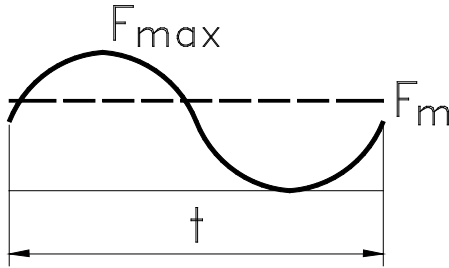

Fig. 6.4
b) The load changes its magnitude in a sine wave-form course between two extreme values (fig. 6.4).